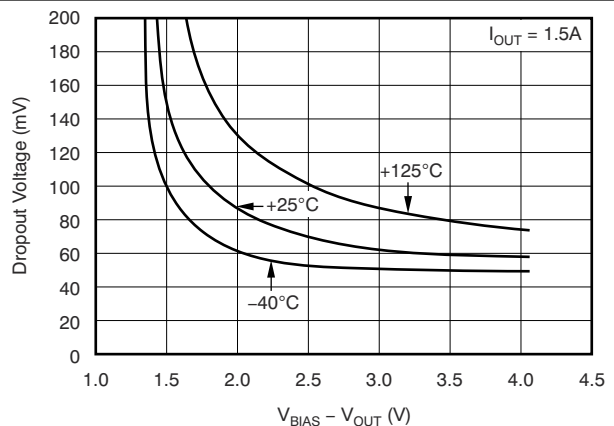

Figure 6-6. V_{IN} Dropout Voltage vs (V_{BIAS} - V_{OUT}) and Temperature (T_J)
- (1) Adjustable devices tested at 0.8 V; resistor tolerance is not taken into account.
- (2) Dropout is defined as the voltage from V_{IN} to V_{OUT} when V_{OUT} is 3% below nominal.
- (3) 3.25 V is a test condition of this device and can be adjusted by referring to Figure 6.6.